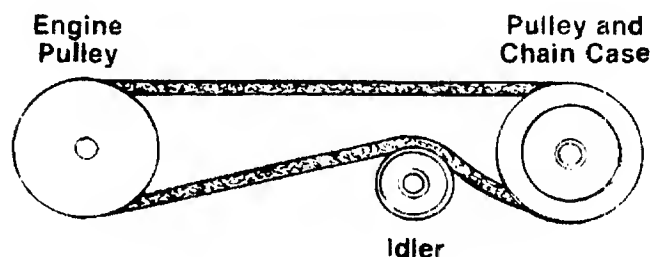

FIGURE 24.
5. Reassemble using the new belt, making certain the idler pulley is under the belt. See figure 24.